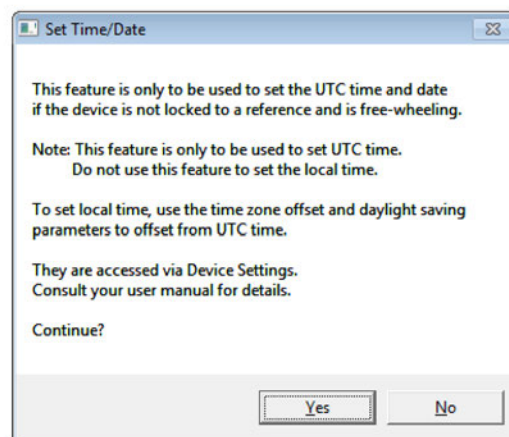

Figure 14.78: Set Time/Date
- 10 A message will be shown (see Figure 14.78).